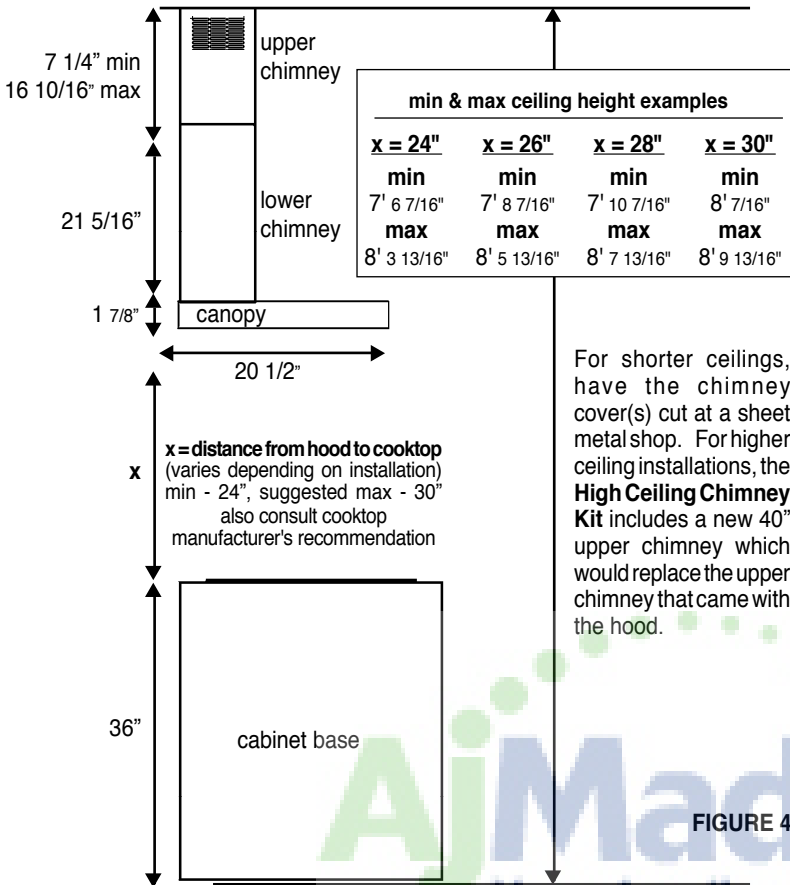

FIGURE 4
The Glassy chimneys are adjustable and designed to meet varying ceiling heights as indicated in (FIGURE 4). The chimneys can be adjusted for ceilings between 7' 6 7/16" and 8' 9 13/16" depending on the distance between the bottom of the hood and the cooktop (distance x in FIGURE 4).
3. Based on your ceiling height and/or personal preference, determine the distance you would like between the bottom of the hood and the cooktop (SEE FIGURE 4 AND 5). The dimensions illustrate mounting the canopy 24" above the cooking surface.